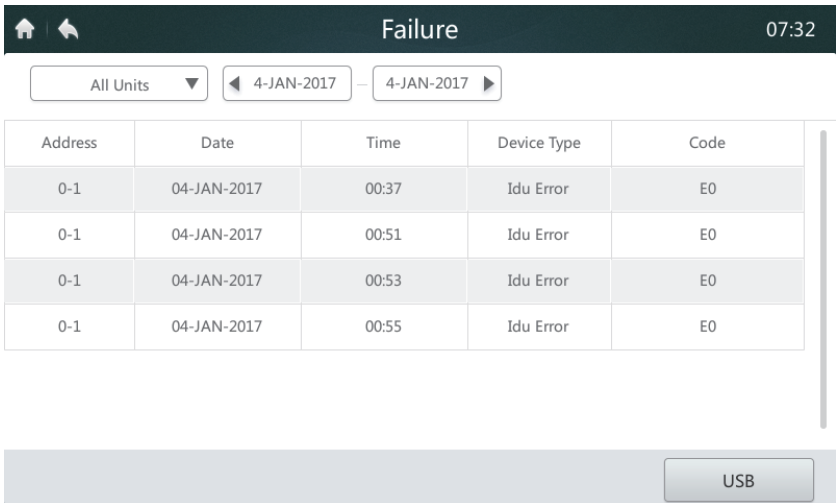

Figure 31 Homepage 2 of the Report page
3. If there is a historical fault record in the system after the start date and end date are selected, the interface shown in Figure 31 will be displayed.
4. Insert the USB storage device and tap the "USB" button marked "1" in Figure 31. The fault data will be exported to the mobile device in csv format. The fault data content includes the address, date, time, model and error code (as shown in the above figure) to facilitate queries. The screen will display the success message after the data is exported successfully, as shown below.